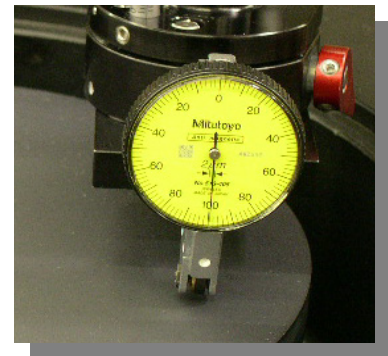

Figure 17
- 6) Attach the adapter plate/indicator to the MultiPrep™ using the cam-lock, and then lower the cam-riser. Rotate the indicator bezel so "100" is at the 6 o'clock position (Figure 17).
- 7) Adjust the oscillator linkage to position the dial indicator tip approximately one (1) inch from the edge of the platen. The dial should be facing the front of the machine (Figure 17).